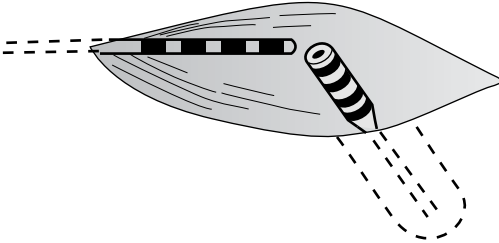

Figure 18. Setscrew connector junction in tunnel.
7. Gently feed the percutaneous extension through the tube until the setscrew connector junction is partially in the tunnel (Figure 18).